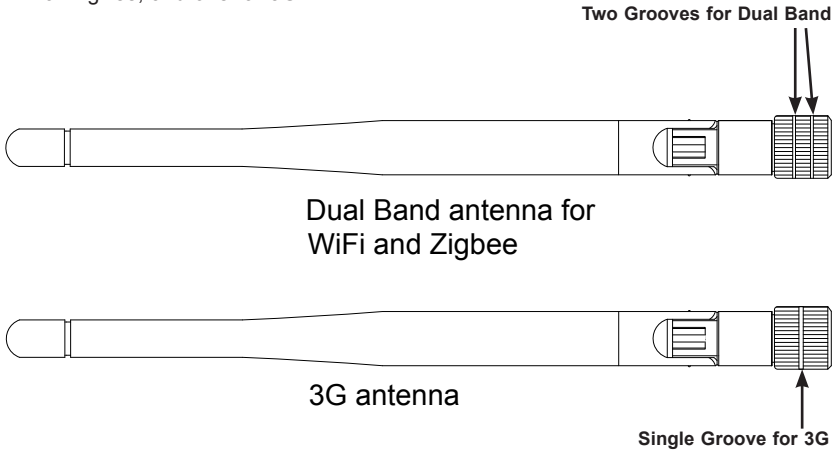

Figure 3-5. Antenna Types
1. For each antenna port, verify that you have the correct antenna type. The dual band antenna is distinguished by two grooves in the screw-on cap (Figure 3-5). The 3G antenna cap has a single groove.